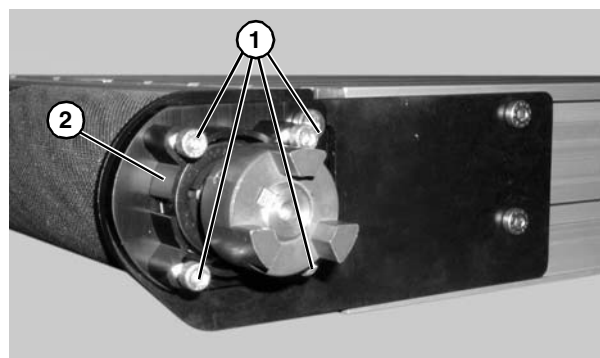

Figure 66
- d. Remove the four (4) lock screws (**Figure 66, item 1**) and the short side drive guard (**Figure 66, item 2**).